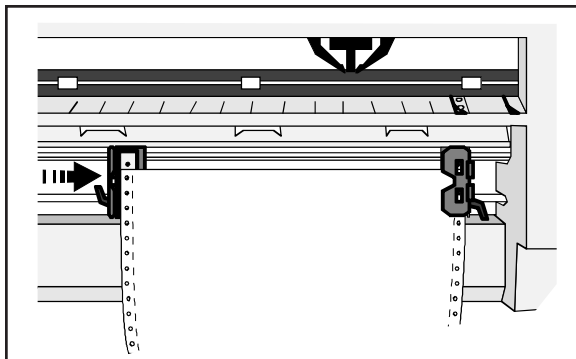

Figure 3-7. Loading Paper Into the Tractors
6. Mount the paper onto the first three pins of both tractors, as shown in figure 3-7, and close the tractor doors. You'll need to slide the right-edge tractor left or right as needed until its pin belt aligns with the paper holes.